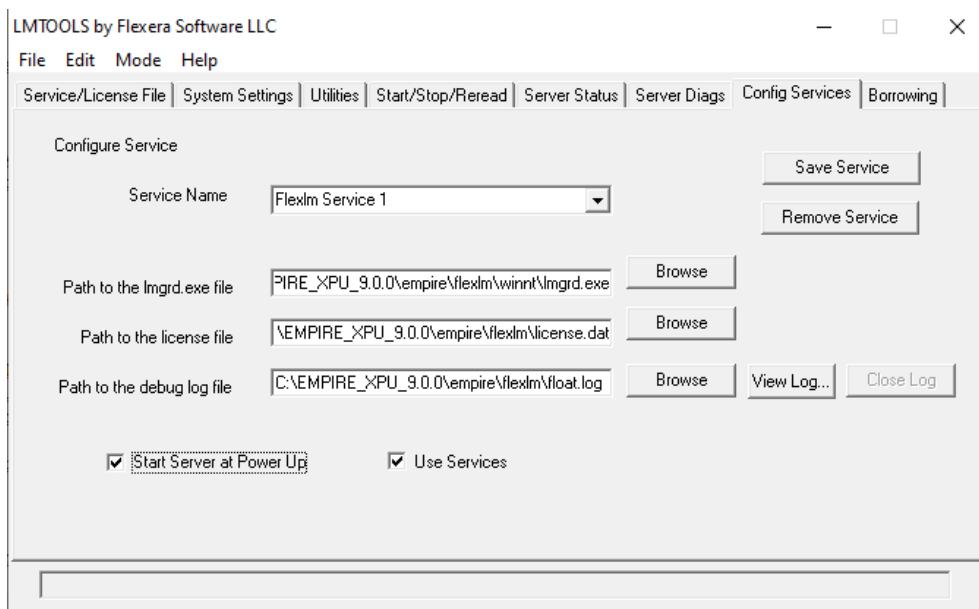

Figure 4.2.: EMPIRE XPU™ Configure Services Tab
- Select tab **Config Services** as in Fig. 4.2